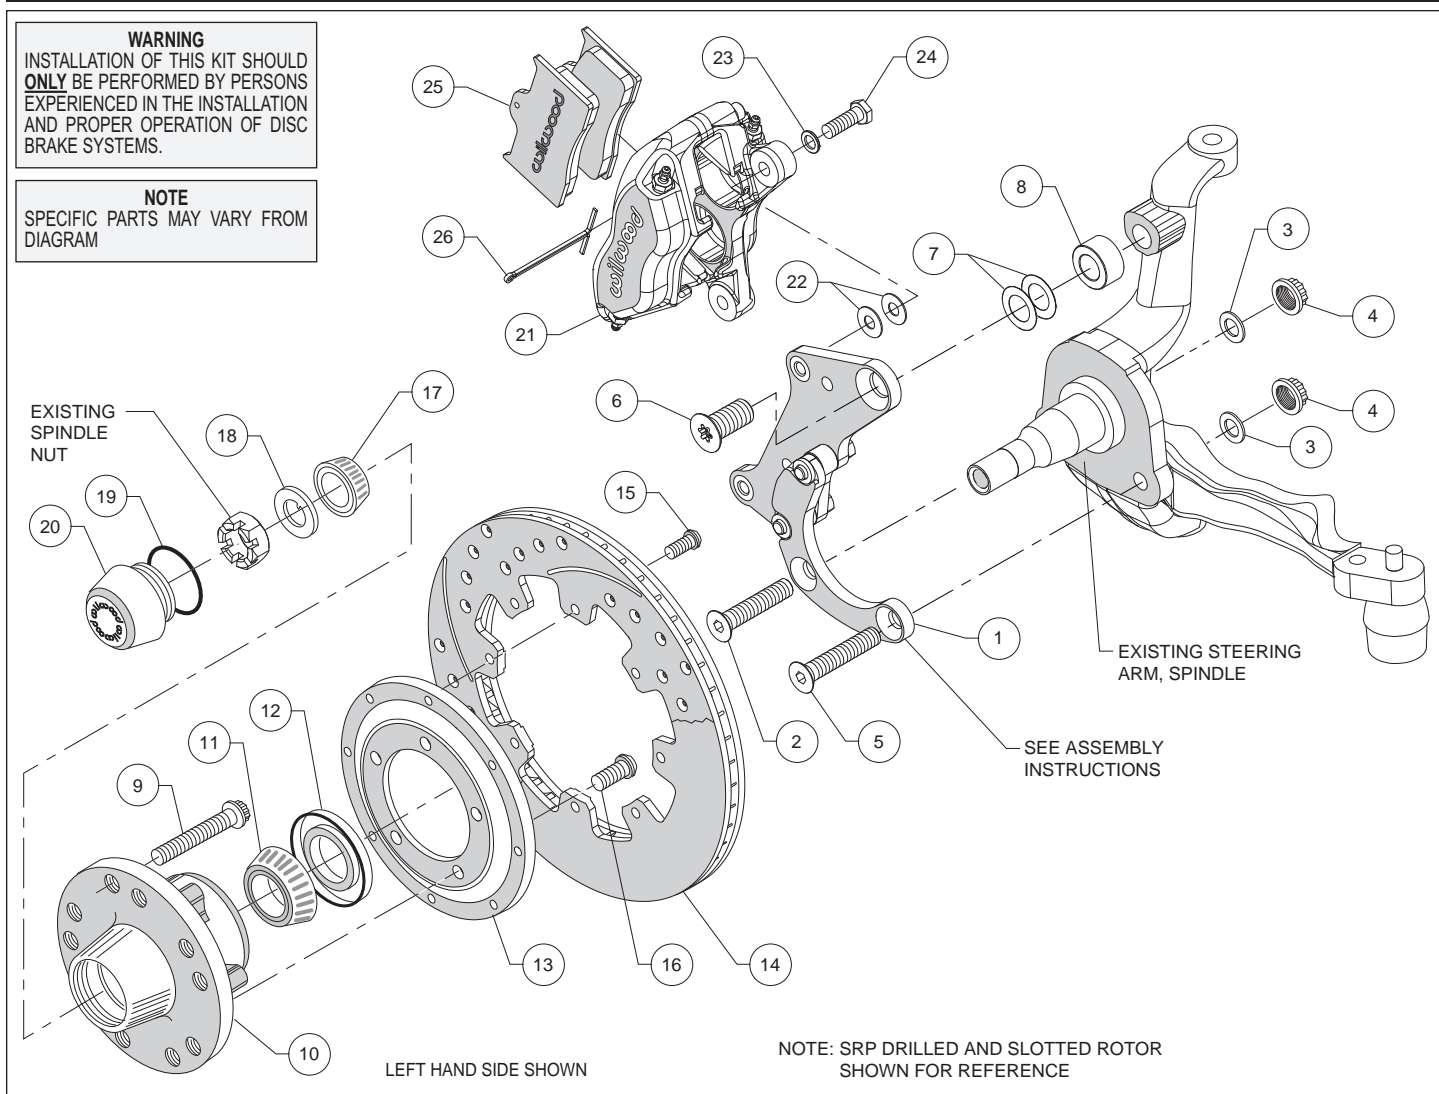
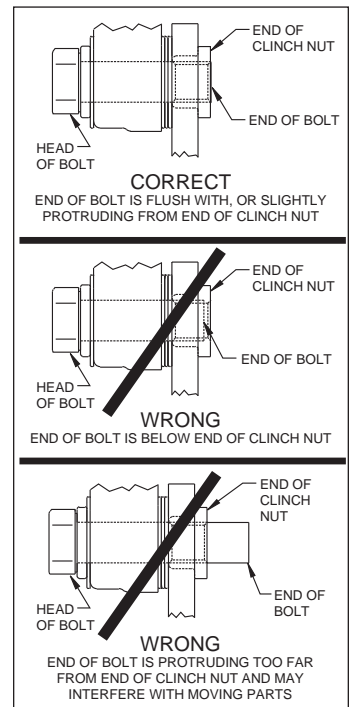

Figure 1. Typical Installation Configuration
Figure 3. Clinch Nut Engagement Diagram
Assembly Instructions (numbers in parenthesis refer to the parts list and Figure 1 on the preceding pages): **CAUTION:** All mounting bolts must fully engage clinch nuts. Be sure to check that all bolts are either flush or protruding through flanged side of clinch nut after shimming, Figure 3.
•The caliper mounting bracket (1) has been assembled at the factory for alignment purposes. Loosen the two bolts that secure the brackets together so that the bolts are hand tight only, this will enable the bracket assembly to be adjusted to accommodate various spindle tolerances during assembly. Align bracket with the two lower holes on the spindle face and attach using bolts (2 and 5), washers (3), and secure using lock nuts (4), as shown in Figure 1 and Photo 1. Install bolt (6) through top of bracket while placing spacer (8), Impala and Corvette disc spindles (drum spindles do not require spacer (8) and shims (7) between bracket and spindle, Figure 1. Initially place two .010" thick shims (7) on the top bolt between the bracket and upright, Figure 1. Temporarily tighten the mounting bolts. Ensure that the flanged heads of the clinch nuts in the bracket are facing outboard, Photo 1. **NOTE:** The bracket must fit squarely against the mounting points on the spindle and be parallel with the mounting face. If not, add or subtract shims (7) on the top bolt between the bracket and spacer. Inspect for interference from casting irregularities, machining ridges, burrs, etc. Torque lock nuts (4) to 65 ft-lb. Remove the upper bolt (6), apply red *Loctite*® 271 to threads, and torque to 140 ft-lb. Remove one at a time the bolts that secure the bracket assembly to each other, apply red *Loctite*® 271 to the threads and torque to 40 ft-lb.
- Install the grease seal (12) by pressing into the backside of the hub (10), flush with the end of the hub, Photo 3.
- Orient the rotor (14) and the rotor adapter (13) as shown in Figure 1 and Photo 4. Attach the rotor to the adapter using bolts (15). Using an alternating sequence, apply red *Loctite*® 271 to the threads, and torque to 25 ft-lb.
- Mount the adapter/rotor assembly (13/14) to the hub (10) using bolts (16), as shown in Figure 1 and Photo 5. Using an alternating sequence, apply red *Loctite*® 271 to the threads, and torque to 45 ft-lb.
- Pack the small outer bearing cone (17) with high temperature disc brake bearing grease and install into hub (10). Slide the hub/rotor assembly onto the spindle. Secure using spindle washer (18) and spindle nut, Photo 6. Adjust bearings per OEM specifications. Install saved OEM nut lock (if any) and a new cotter pin (not supplied).
- Screw dust cap (20) into hub (10), Photo 7. Friction created by the o-ring (19) on the dust cap keeps it from unscrewing. **NOTE:** The O.D. of the existing OEM spindle washer may be larger than the I.D. of the dust cap not allowing it to seat against the hub face. Therefore, use the spindle washer (18) supplied with the kit instead of the OEM washer.
- NOTE:** Please reference the caution statement at the beginning of the assembly instructions. Mount the caliper (21) onto the caliper mounting bracket (1) using bolts (24) and washers (23), as shown in Figure 1. Initially place two .035" thick shims (22) on each bolt between the caliper and the bracket, Photo 8. Temporarily tighten the mounting bolts and view the rotor (14) through the top opening of the caliper. The rotor should be centered in the caliper, Photo 9. If not, adjust by adding or subtracting shims between the bracket and the caliper. Always use the same amount of shims on each of the two mounting bolts. **NOTE:** The end of each bolt must be flush with or slightly protruding from the head of the clinch nut, as shown in Figure 3. If necessary place spare shims between washer (23) and caliper mounting ear to achieve the proper clinch nut engagement. Once the caliper alignment and clinch nut engagement are correct, remove the bolts one at a time, apply red *Loctite*® 271 to bolt threads, and torque to 40 ft-lb.
- Install the disc brake pads (25) into the caliper, with the friction material facing the rotor (14), and secure in place using cotter pin (26), Photo 10.